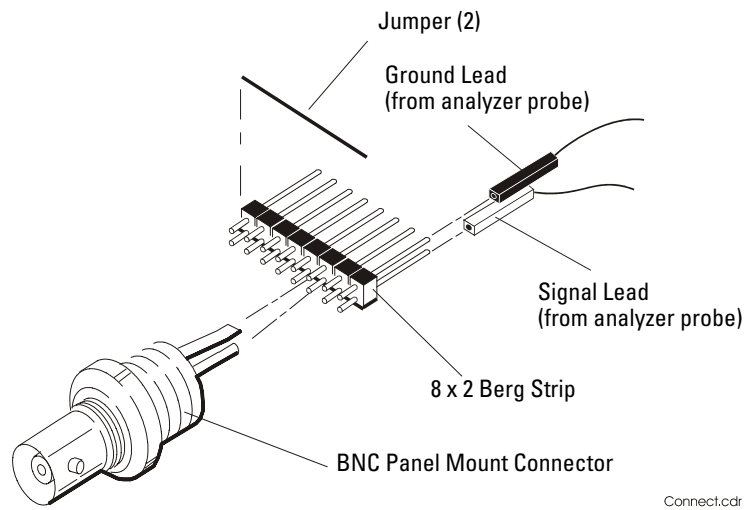

Figure 1 Constructing the 8-by-2 Connector
- 2 On one side of the Berg strip, solder a jumper wire to all of the pins (shown in Figure 1 on page 29).